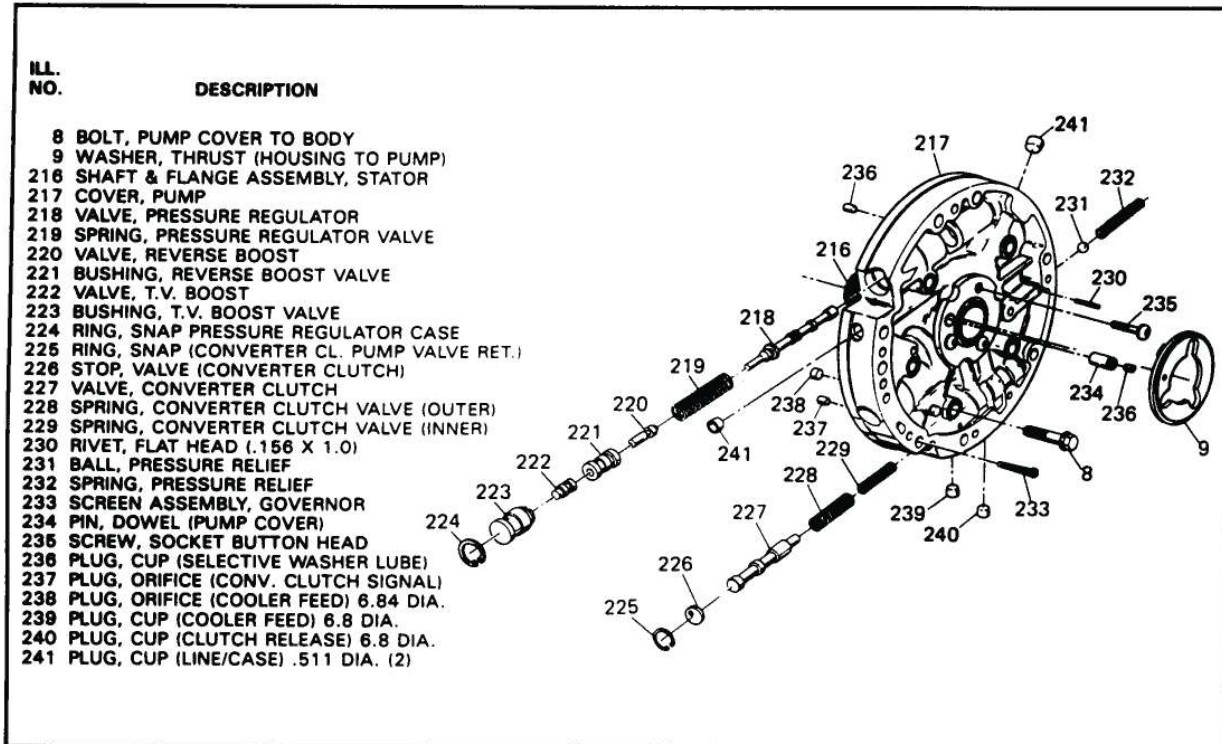

Figure 131
22. Install the two valve line-ups that go in pump cover **exactly** as they are shown in Figure 131.
25. Install selective thrust washer (9) on the pump cover and retain with "Trans-Jel", as shown in Figure 131.